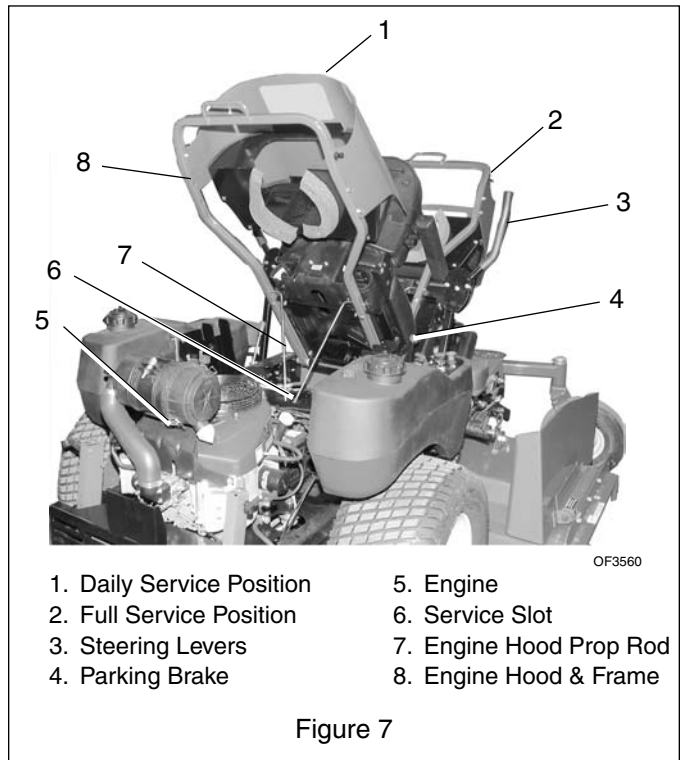

Figure 7
4. Firmly grasp engine frame and cover. Lift to desired service position (Figure 7).